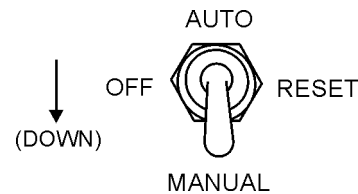

Figure 43. Off/Manual/Auto Switch (Manual)
7. If the generator is equipped with the Microprocessor Engine Controller (MPEC), place the Off/Manual/Auto switch (Figure 43) in the **MANUAL** position (down). Observe that the engine begins to crank.